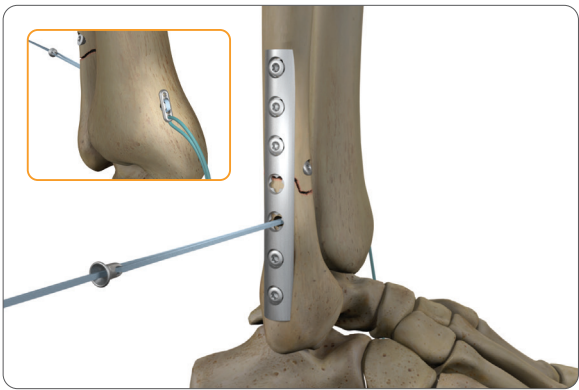

Figure 5. Picture showing the medial button sitting flush on the medial side
6. Flip the medial button to place it flush on the medial cortex. Release the passing suture and pull back on the suture tape at the lateral button (**Figure 5**). Confirm the button position and orientation.